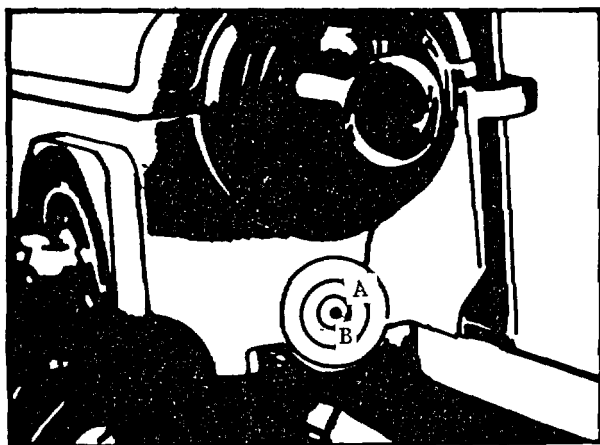

Fig. 17.
1. No adjustment of the back gears is necessary, since all the parts are factory fitted and the teeth meshed with proper back lash and the whole assembly dowelled. If, however, the back gears have been disassembled, realign the witness marks (A and B) Fig. 17, as described in Step #6 on Page 27 under Removing and Replacing Outboard Spindle Bearing, Spindle V-Belts, and Back Gears.